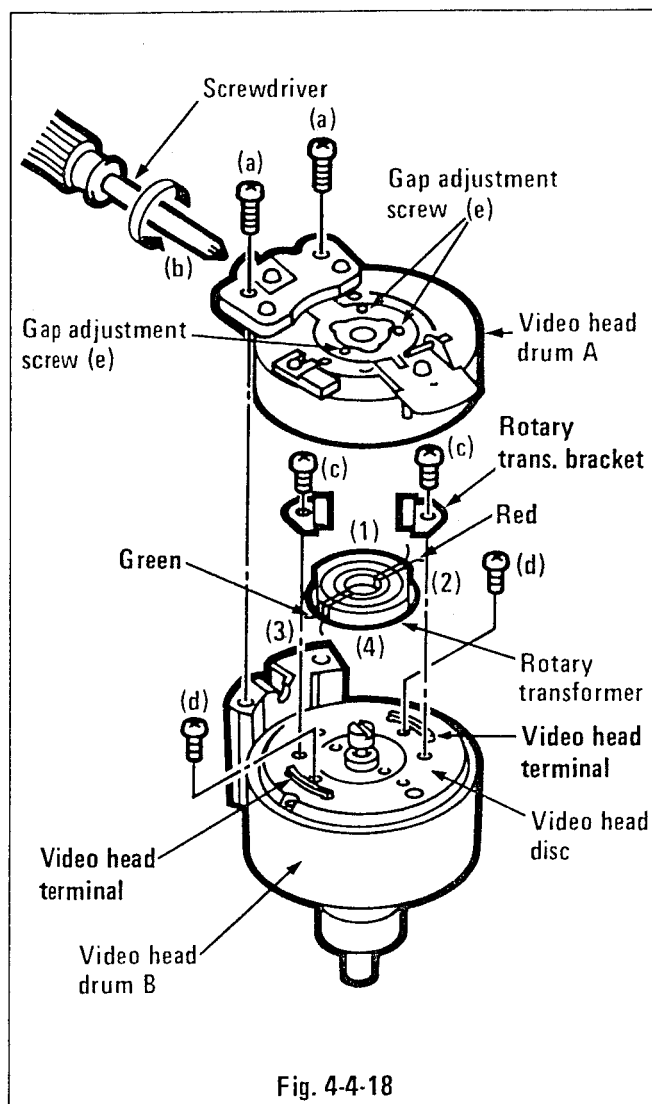

Fig. 4-4-18
(7) Install the reel motor by using the reverse order of the removal procedure.
16. VIDEO HEAD DISC (See Figs. 4-4-18, 4-4-19.)